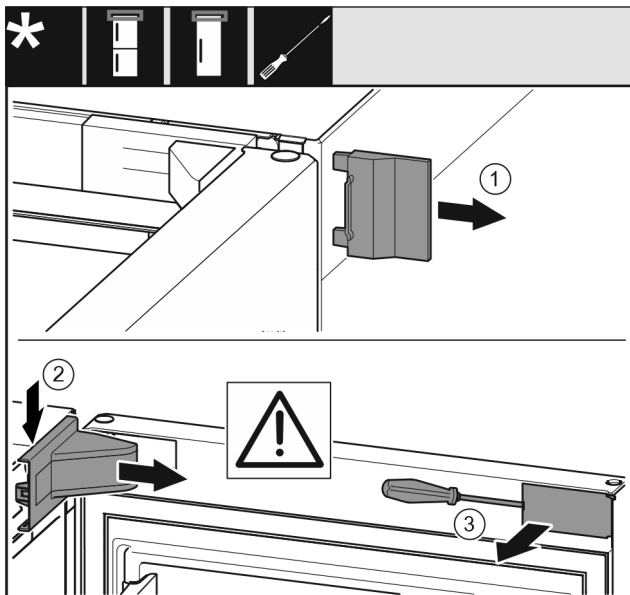

Fig. 10
- ▶ Remove the outer cover Fig. 10 (1).
- ▶ Disengage and remove the swap bearing block cover Fig. 10 (2).
- ▶ Use a slotted screwdriver to unlatch the trim Fig. 10 (3) and swing it to the side.